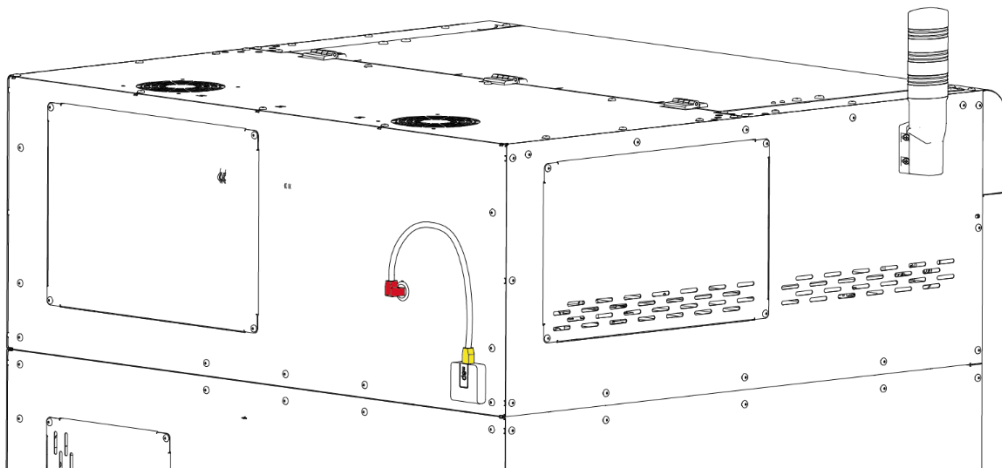
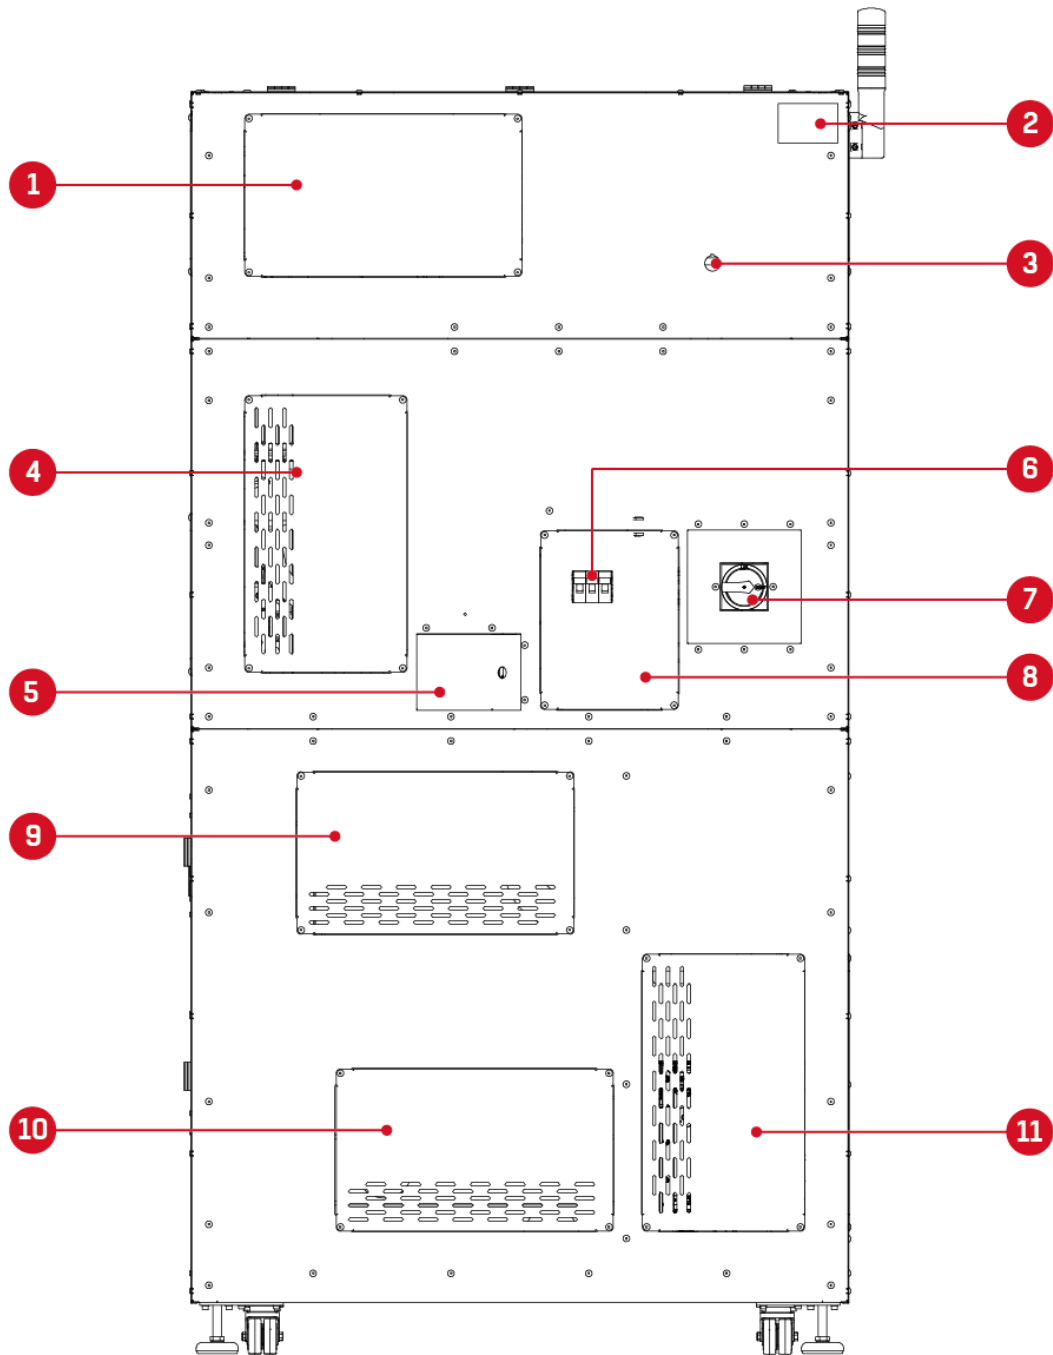

Fig. 10 WLAN module installed on the printer
Fig. 18 3DGence INDUSTRY F350 – rear view:
After the printer is properly positioned and levelled, connect the device to a power source. The power cord input is located on the rear side of the device (Fig. 18, point 5). The connection specification is described in section II, subsection 1.7. The procedure for turning on the device is described in section V, subsection 2.1.
1. Plug in one end of the WLAN cable (included) into the WLAN module (Fig. 10, yellow).
2. Plug in the other end of the WLAN cable (Fig. 10, red) into the LAN network/WLAN adapter port on the printer (Fig. 18, point 3).
3. Put the WLAN module against the printer. It will be held in place with a magnet (Fig. 10).
If you select a “wired” connection type in the “network type” record, remove the WLAN adapter from the printer and plug the LAN cable into the LAN/WLAN adapter port of the printer (Fig. 18, point 3). The “connected” status at the bottom of the screen indicates that the device is connected to the network.
The LAN port (Fig. 18, point 3) allows you to connect the device to the network infrastructure via a cable with a RJ45 plug. This network can be connected to the Internet to use the 3DGence CLOUD system and automatic printer software updating. The network may also not be connected to the Internet to enable transferring files locally to the printer via the 3DGence SLICER 4.0 programme.
The printer's overcurrent protection (AC circuit breaker) is located on the rear enclosure of the device (Fig. 18, point 6). It protection the printer against short-circuits and low-voltage overloads of alternating and direct current. When the AC circuit breaker is moved up, it is turned to the "ON" position and power is supplied to the printer. When high current surges occur, the AC circuit breaker trips to protect the printer's electrical and electronic components. When the AC circuit breaker trips, its handle moves down to the "OFF" position. Before restarting, make sure that all failures are rectified and the device can be started safely. To reconnect power supply, set the AC circuit breaker to the "ON" position by sliding it upwards.
The printer's main switch is located on the back of the device and it enables power supply to all systems inside the device (Fig. 18, point 7). The switch is equipped with 4 current circuits. When the printer is fitted with an uninterruptible power supply (UPS), the power supply is isolated both upstream and downstream the module. This solution prevents the device from being powered from the UPS battery when it is necessary to power it down completely. It is recommended that the machine be turned off using the main switch after completing the safe shutdown procedure from the operator panel (the power button on the front panel of the machine). Ongoing processes will be terminated and the device will stop working after cooling the printing module and the working chamber, as otherwise permanent damage to key components may occur.
The power cord inlet is located on the rear of the device (Fig. 18, point 5). It is equipped with a cable gland to prevent kinking of the power cable. Use power cords conforming with the specifications and check the condition of the power cord. Do not use the device when the cable or the cable gland is damaged.